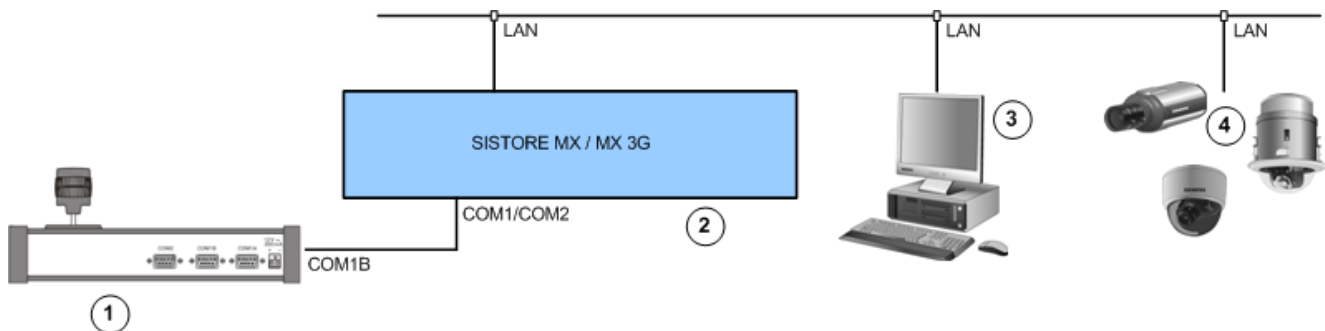

Fig. 27 SISTORE unit – CKA4820 – SISTORE RemoteView – LAN cameras system overview
1. Connect the CKA4820 control panel to the SISTORE (see Fig. 27).